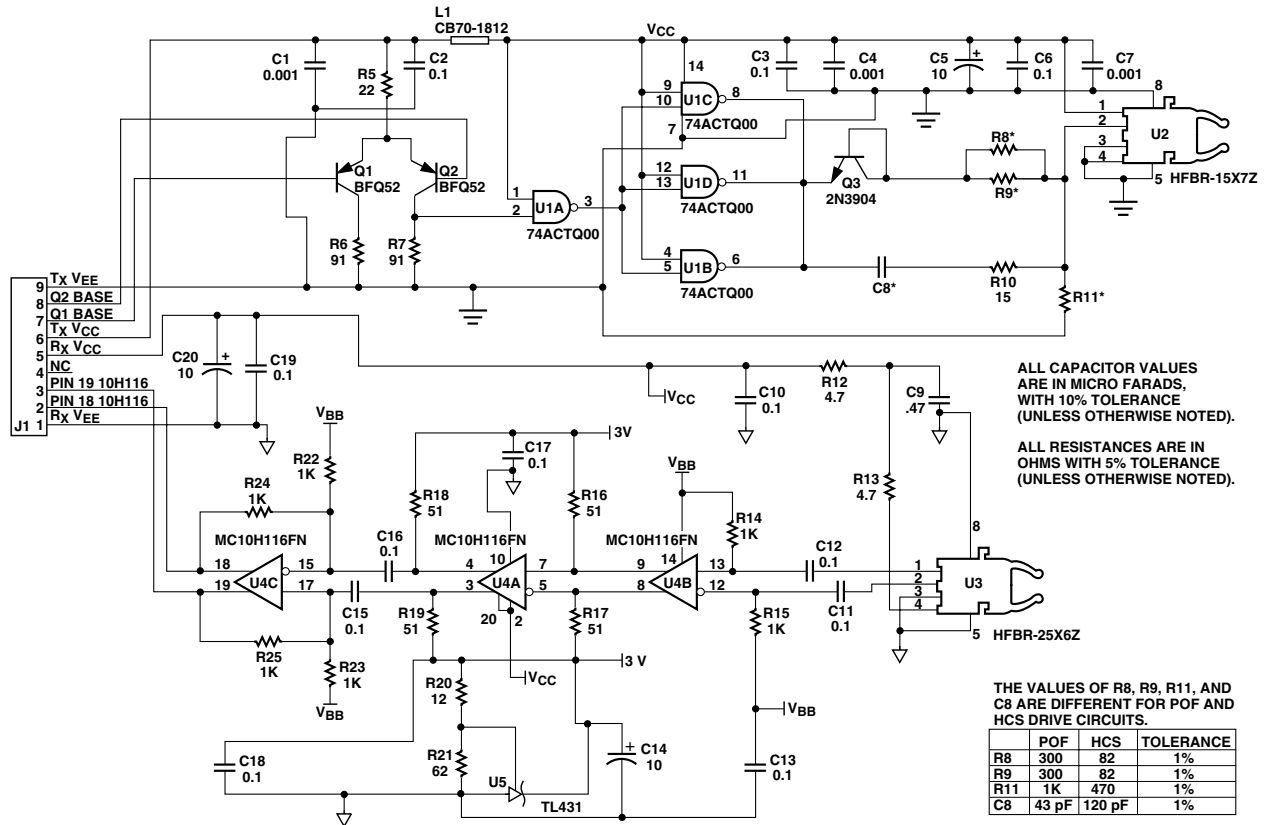

Figure 1. Transmitter and receiver application circuit with +5 V ECL inputs and outputs.
**Plastic and Hard Clad Silica Optical Fiber Receiver Application Circuit:** Performance[4] of the HFBR-25X6Z receiver in the recommended application circuit (Figure 1); 1-125 Mbd, 25°C unless otherwise stated.